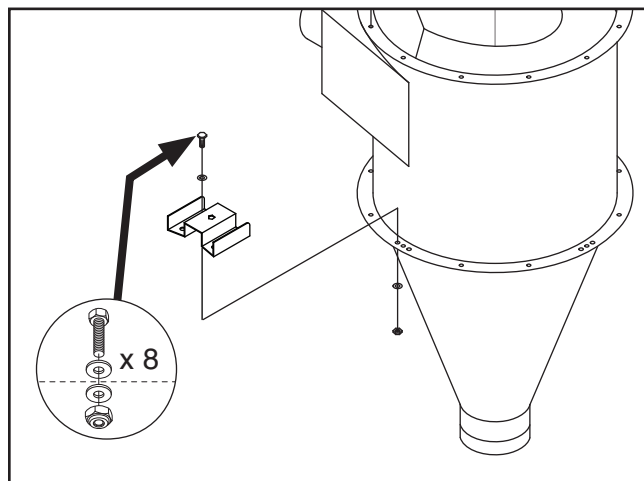

Figure 9. Collector mounting brackets and securing fasteners.
6. Attach collector mounting brackets to intake assembly, as shown in **Figure 9**, with (8) $\frac{5}{16}$ "-18 x 1" hex bolts, (16) $\frac{5}{16}$ " flat washers, and (8) $\frac{5}{16}$ "-18 lock nuts.